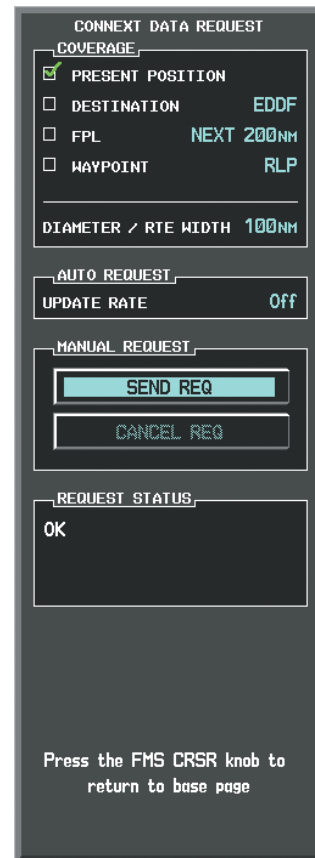

Figure 6-63 Connext Data Request Window
- 4) Turn the large **FMS** Knob to highlight the desired coverage option(s) and press the **ENT** Key to show or hide a green check mark to select one or more of the following coverage selections (Figures 6-63, 6-64):